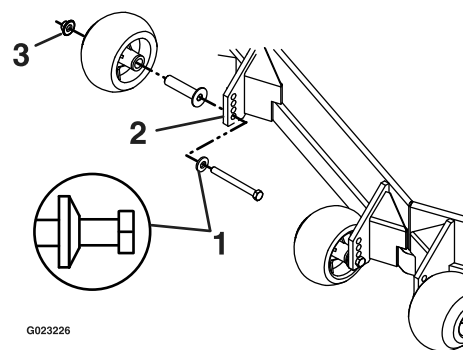

Figure 22
8. Torque the 3/8-16 nyloc nut to 50–55 ft-lb (68-75 N-m) (Figure 22).